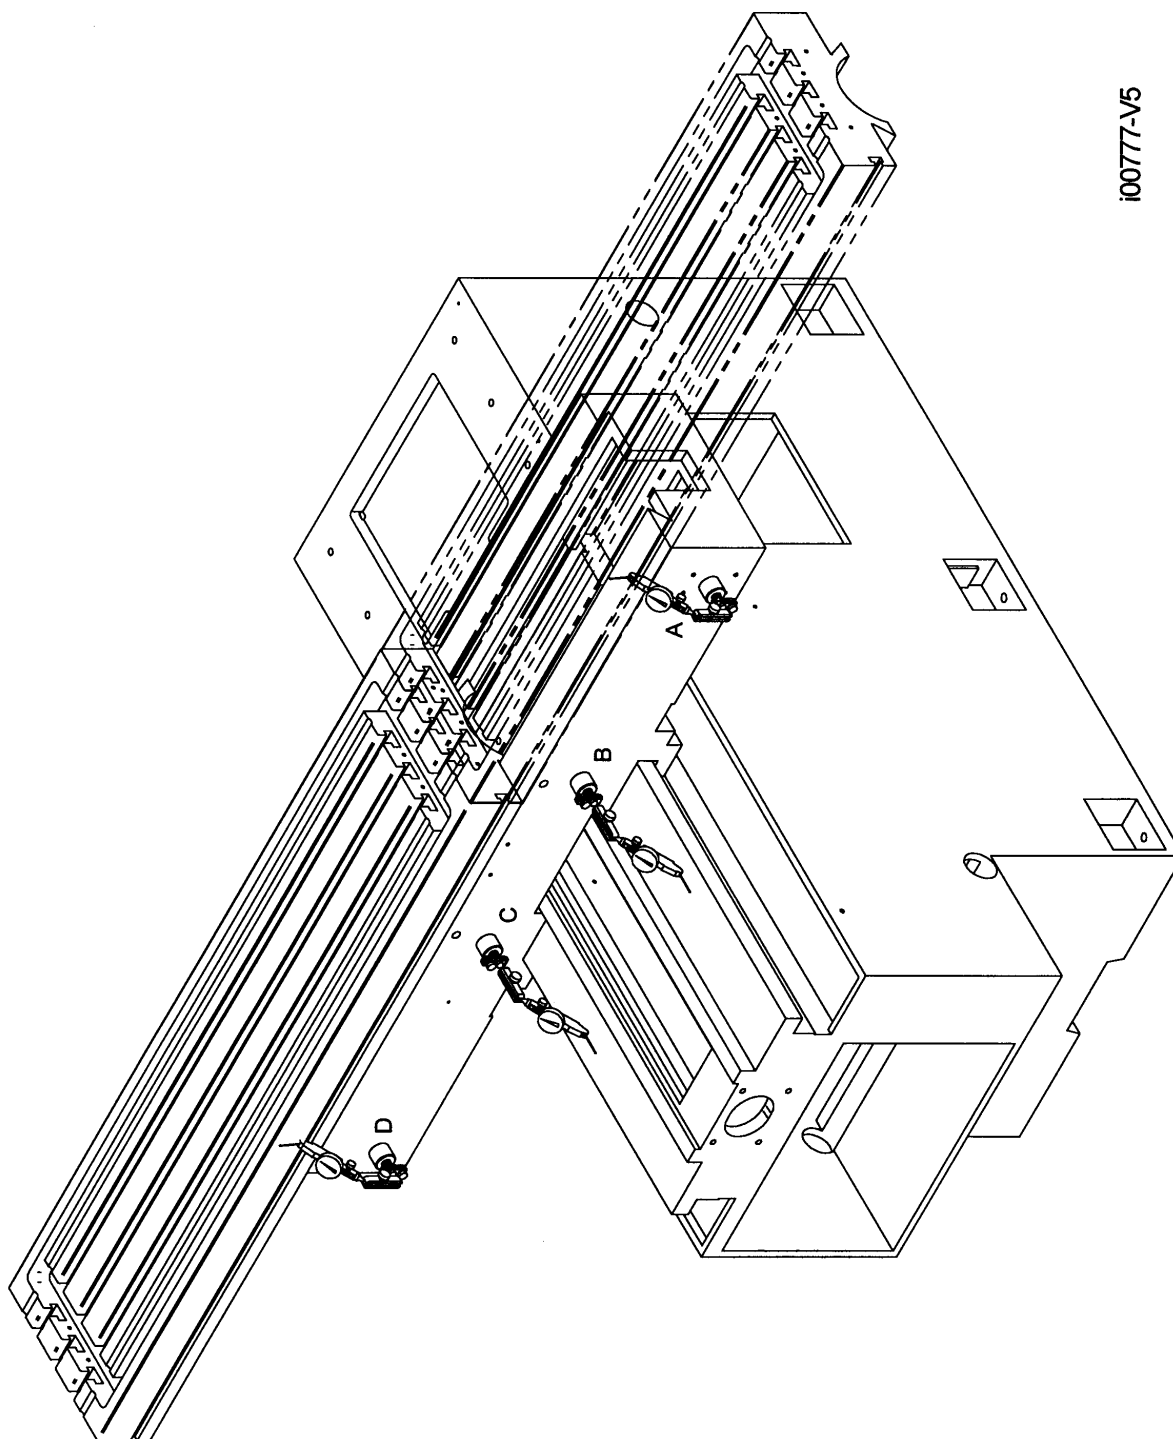

Figure 5-39
4. Replace the table trays. See Figure 5-39.